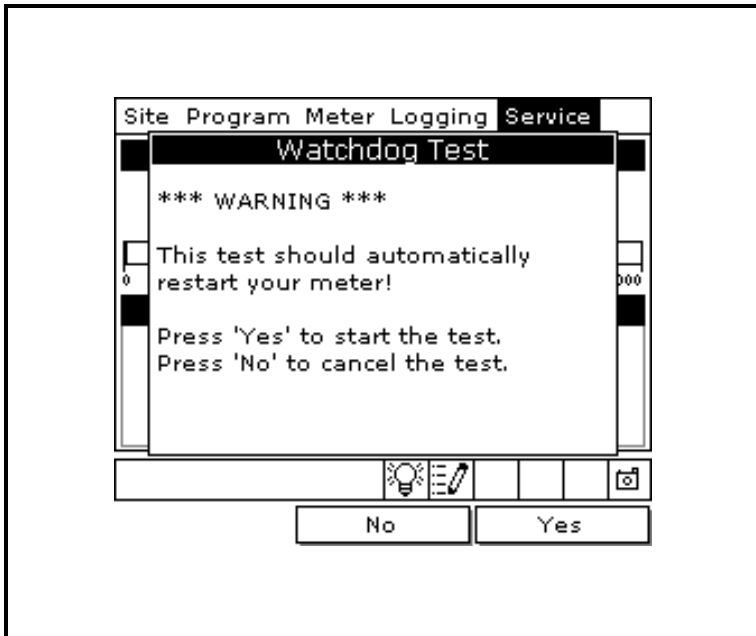

Figure 8-4: The Watchdog Test Screen
4. Use the arrow keys to scroll to **Watchdog Test** and press [ENTER]. The screen appears similar to Figure 8-4 below.